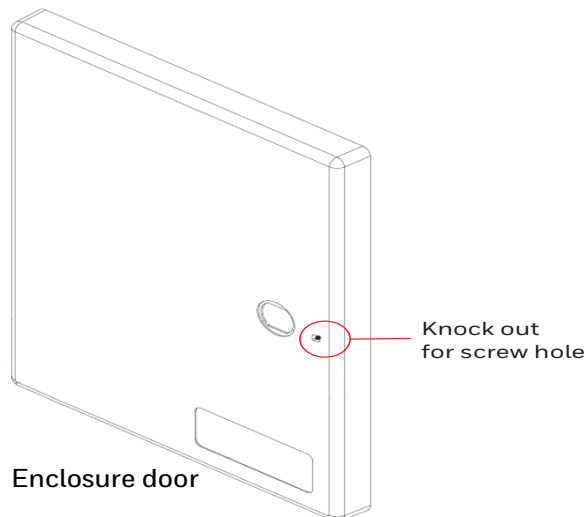

Figure 4.1: Screw Hole Knock Out
4. At the right-side door edge, punch out a hole for the door locking screw or for an optional keyed lock (see Figure 4.1).